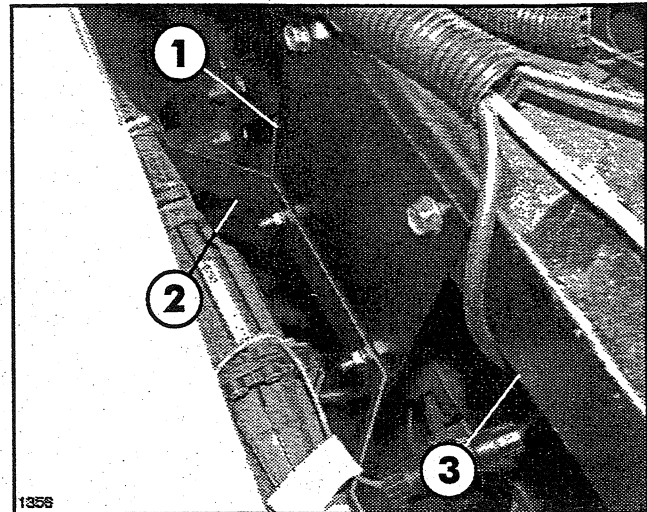

FIG. 5
2. Attach top of Flow Meter Extension Bracket to Solenoid Mounting Bracket, where Flow meter Assembly was removed, using (2) $5/16 \times 1$ " cap screws, washers and hex nuts. See FIG. 5.